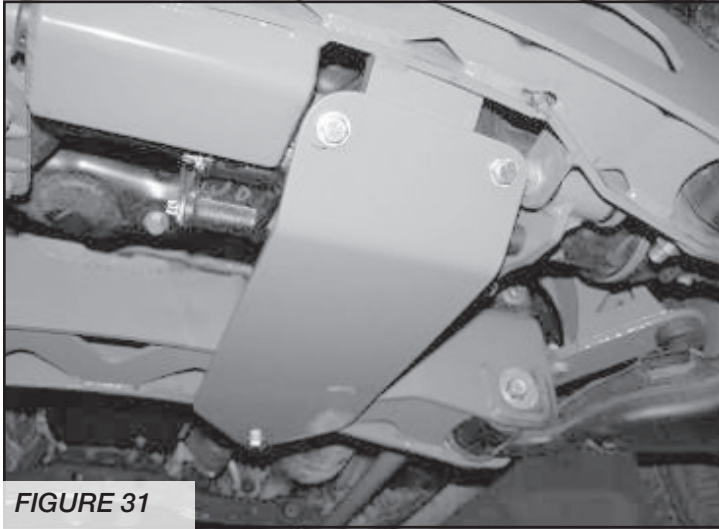

FIGURE 31
24. Locate FT70058BK skid plate. Attach using the supplied hardware (front mount) 5/16" x 1-1/4" bolts, nuts, and washers (rear mount) 1/2" x 1-1/2" bolt, nut, and washer. (BAG 1) Leave loose. **SEE FIGURE 31**